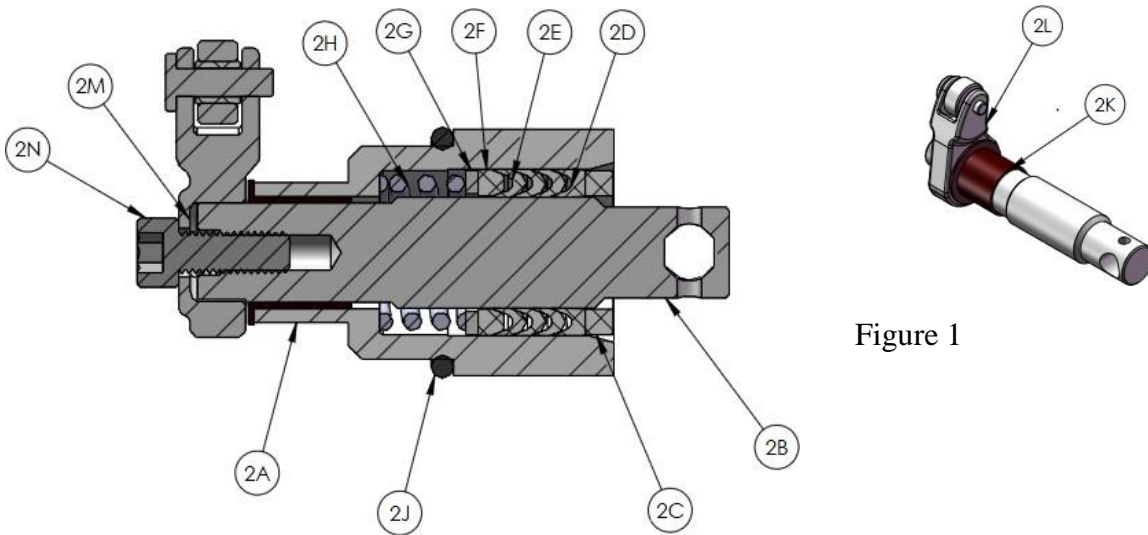

Figure 1
2. Apply Loctite #271 to threads of bonnet Stem [2B] and install Cam Assembly [2L], Cam Washer [2M], and Cam Screw [2N] on Bonnet Stem [2B] and tighten. Ensure that the Cam Assembly [2L] is installed as shown in Figure 1.
4. Install Packing Spring [2H], Packing Washer [2G], Male V-Packing [2F], (3) V-Packing [2E], Female V-Packing [2D], and Packing Spacer [2C] in gland [2A].
7. Apply Loctite #271 to threaded holes in Body [1]. Install (2) Mounting Screws [3] through Cover Plate [4] and (2) Cover Washers [5] into Body [1].